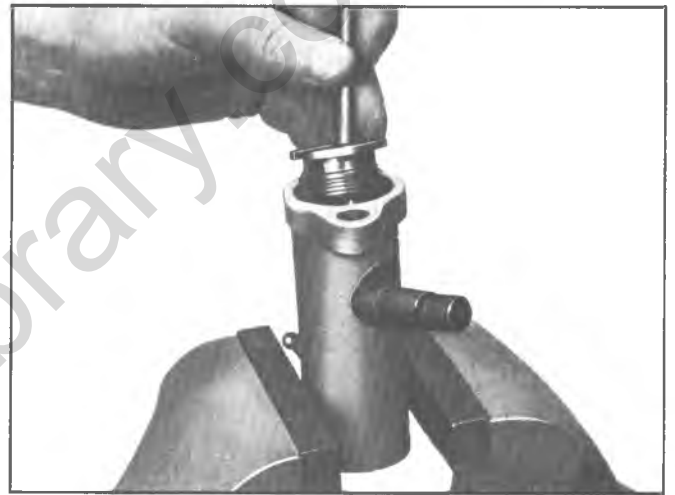

Fig. 72--Replacing Adjuster Plug and Shaft
2. Clamp the adapter in vise, put the shaft through the seat in the adjuster plug and screw adjuster plug in sleeve (fig. 72).